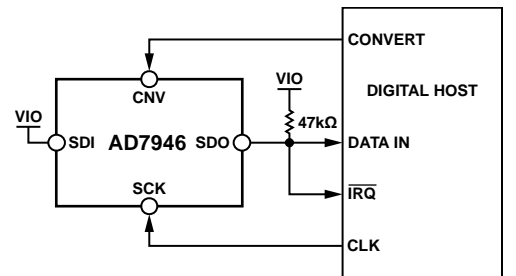
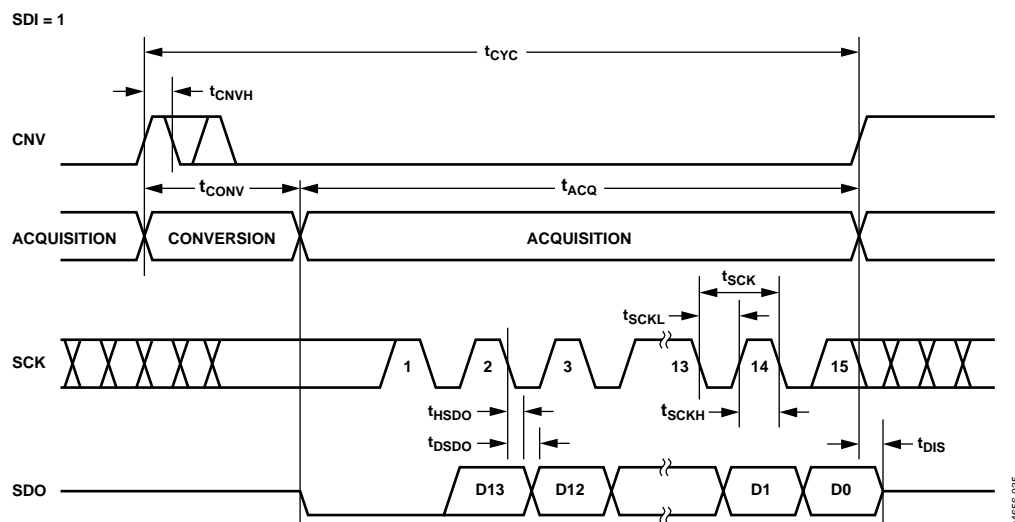
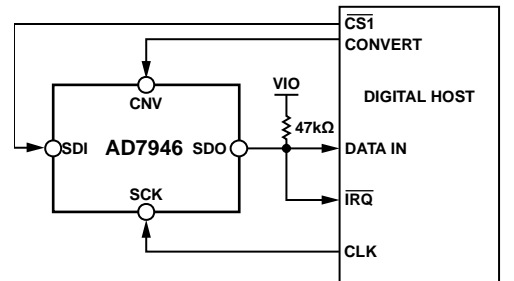
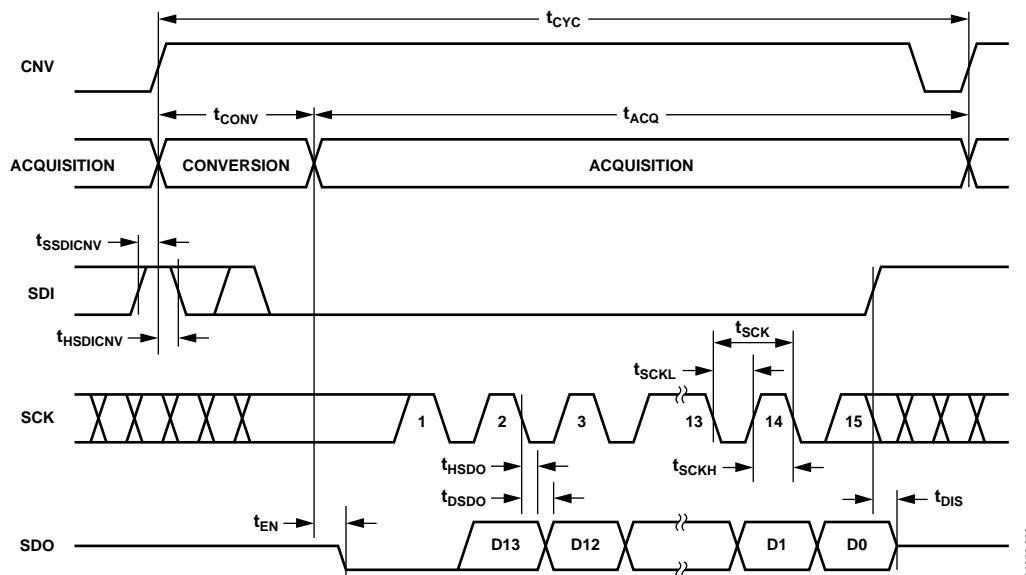

Figure 35. $\overline{\text{CS}}$ Mode 3-Wire with BUSY Indicator Connection Diagram (SDI High)
Figure 36. $\overline{\text{CS}}$ Mode 3-Wire with BUSY Indicator Serial Interface Timing (SDI High)
Figure 39. CS Mode 4-Wire with BUSY Indicator Connection Diagram
Figure 40. CS Mode 4-Wire with BUSY Indicator Serial Interface Timing
- In $\overline{\text{CS}}$ mode, if CNV or SDI is low when the ADC conversion ends (see Figure 36 and Figure 40).
The connection diagram is shown in Figure 35, and the corresponding timing is given in Figure 36.
The connection diagram is shown in Figure 39, and the corresponding timing is given in Figure 40.